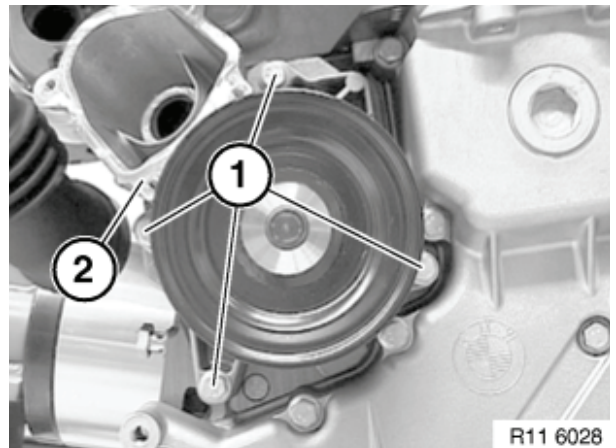

Figure 7-17
5. Remove four bolts (**Figure 7-17, (1)**) and remove coolant pump (**Figure 7-17, (2)**).